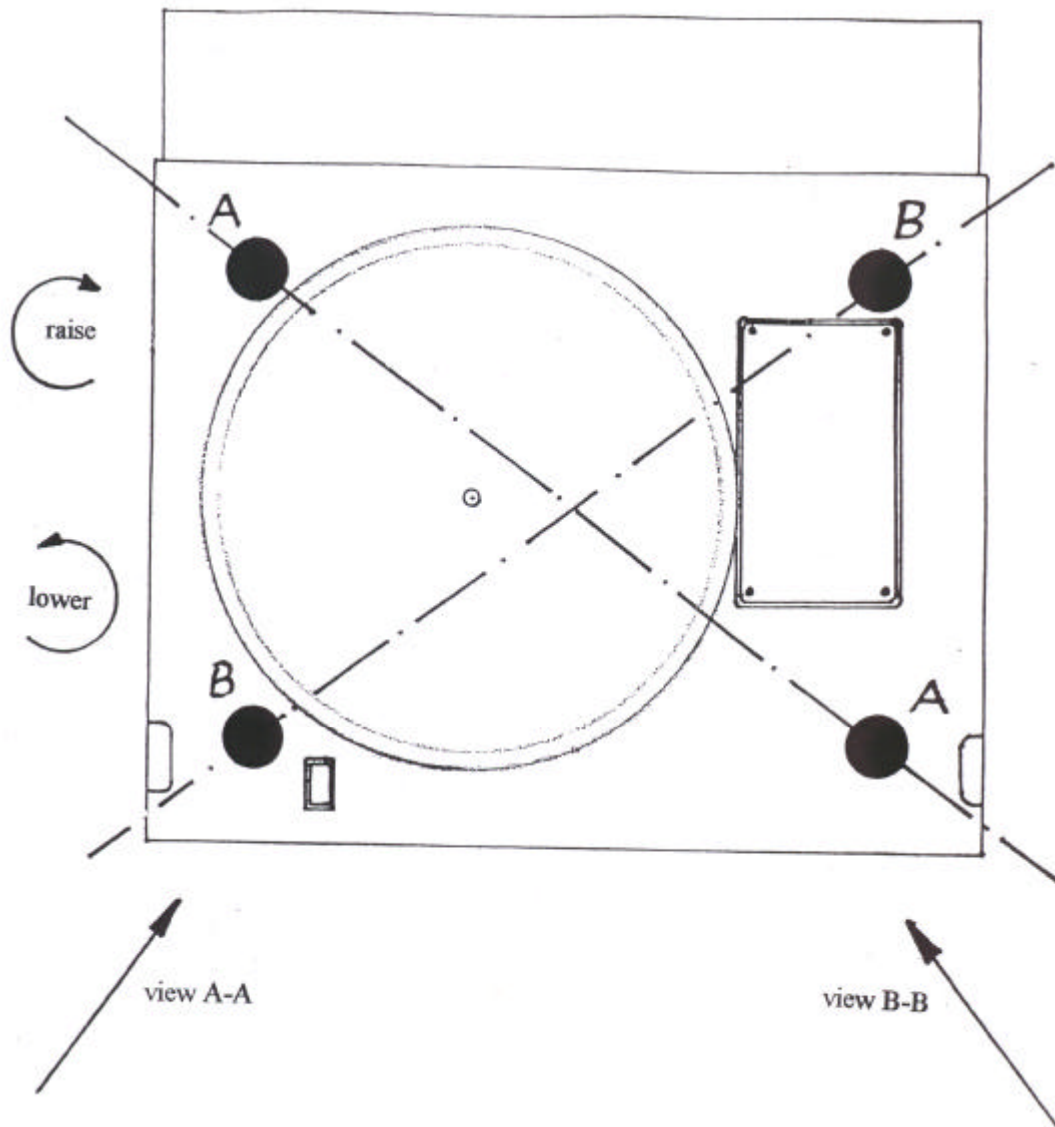

Fig. 7
- d) This is achieved by unscrewing (anticlockwise) two diagonal black knobs (A) on turntable top and then the other diagonal pair (B). This operation should be done in small gradual stages ie, a few turns of one diagonal pair (A) then a few turns of the other pair (B) until the level is slowly brought down to a suitable clearance. Often, however, one part of platter is clearly higher and the knob closest to that part should be unscrewed separately until platter is parallel with plinth (Fig.7)